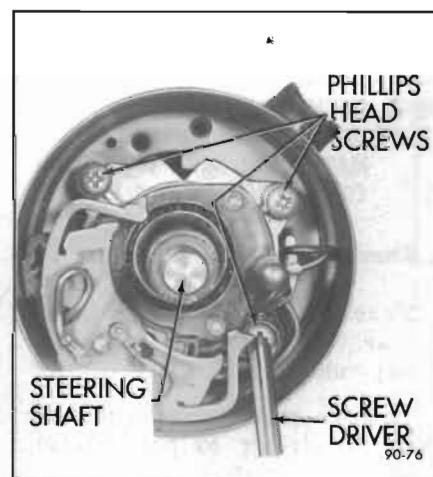

Figure 90-76—Removing Steering Shaft Upper Bearing Adapter Screws
8. Remove three screws on steering shaft upper bearing adapter. See Figure 90-76.